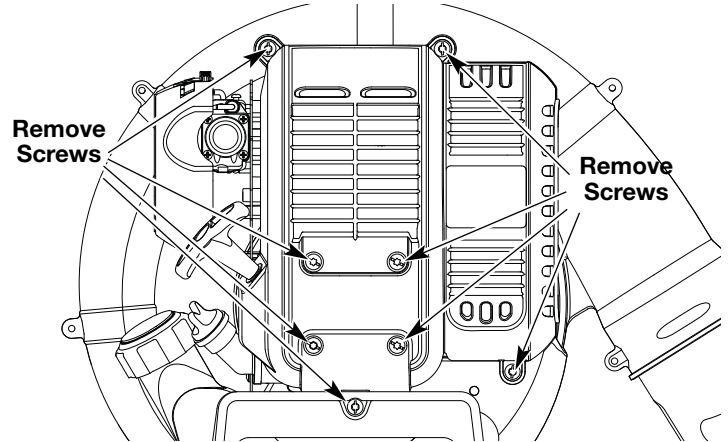

Fig. 30
1. Remove the eight (8) screws on the back of the engine cover with a Flat-head or T-25 Torx screwdriver (Fig. 30).
4. Remove the engine cover (Fig. 30).
1. Stop the engine and allow it to cool. Remove the eight (8) screws on the back of the engine cover with a Flat-head or T-25 Torx screwdriver (Fig. 30).